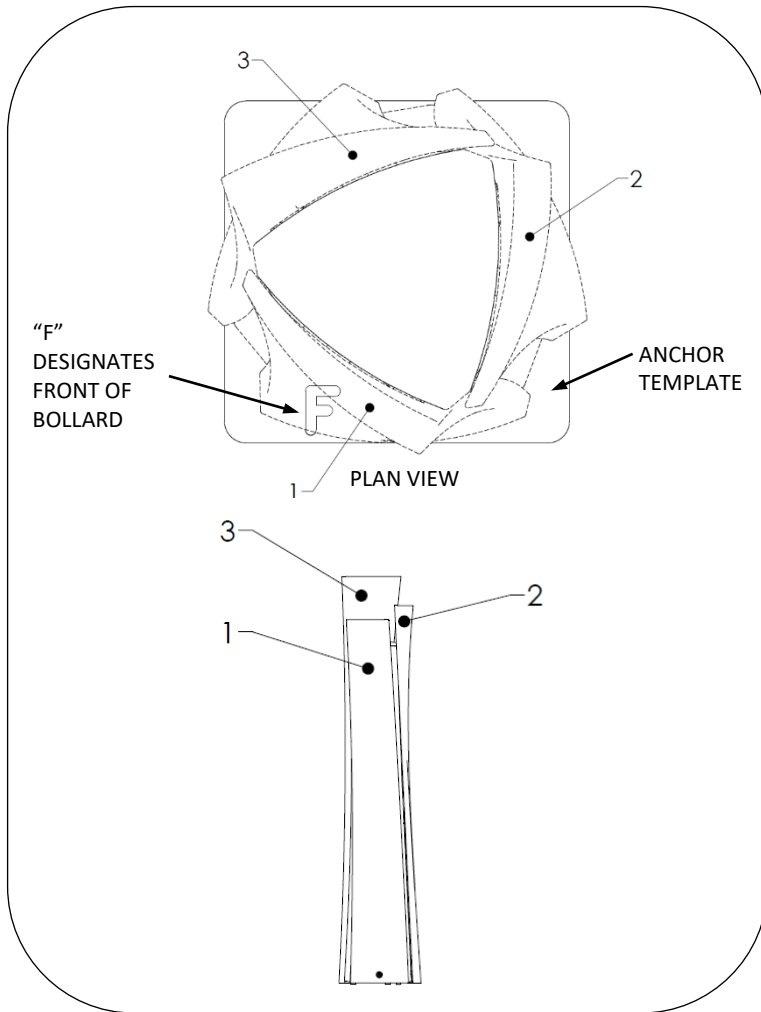

FIG. 1 – ORIENTATION OF BOLLARD AND DRILL TEMPLATE
2. Set the drill template in the desired position and mark hole locations. See Fig. 1 for orienting the template in the proper position.